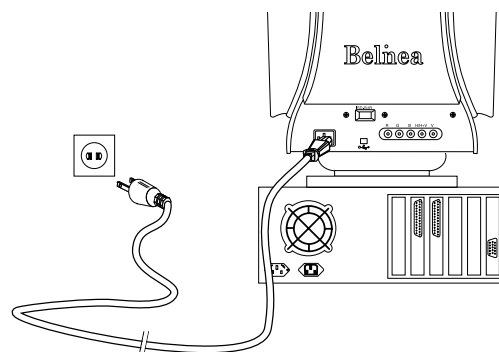

Figure 3. Connecting the monitor to the power source
1. Connect the separate power cable to the monitor and a grounded outlet (see figure 3).